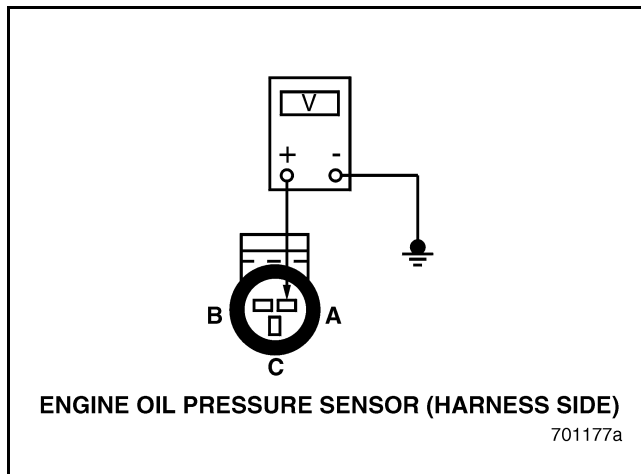

Figure 18
4. Measure voltage between EOP Sensor harness connector pin A (ground line) and a good ground (see Figure 18).